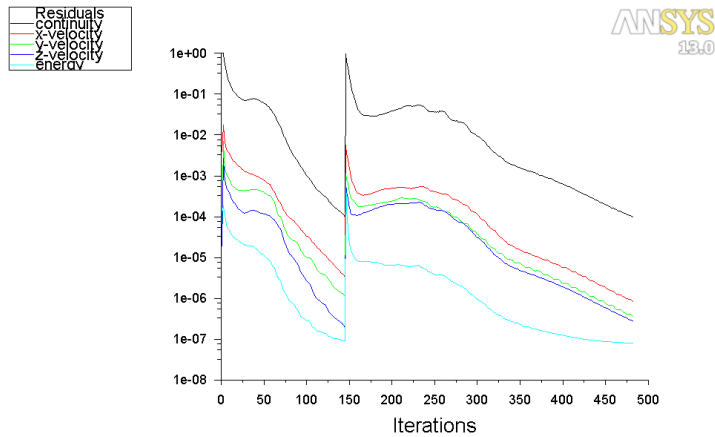

Figure 13: Residual Plot After First Mesh Adaption
1. Request an additional 400 iterations. (Figures 13 and 14).